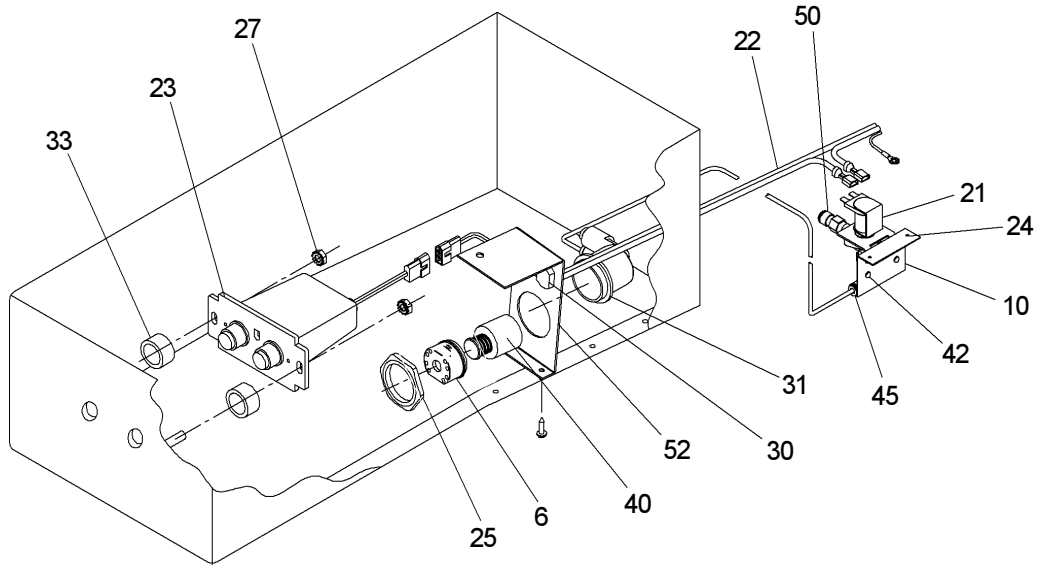

FIG. 7
8. Install fountains. Remove bottom cover plates on underside of fountains and save the screws. Mount the fountains to the upper panel and the wall frame with (4) 5/16" x 3/4" (19mm) long bolts and nuts (provided). Tighten securely.
11. Connect power cord of sensor to solenoid valve by running it through the back panel and connecting it as shown in Fig. 7. Connectors may be connected to either terminal on solenoid valve. Attach ground wire to solenoid valve bracket with green ground screw.